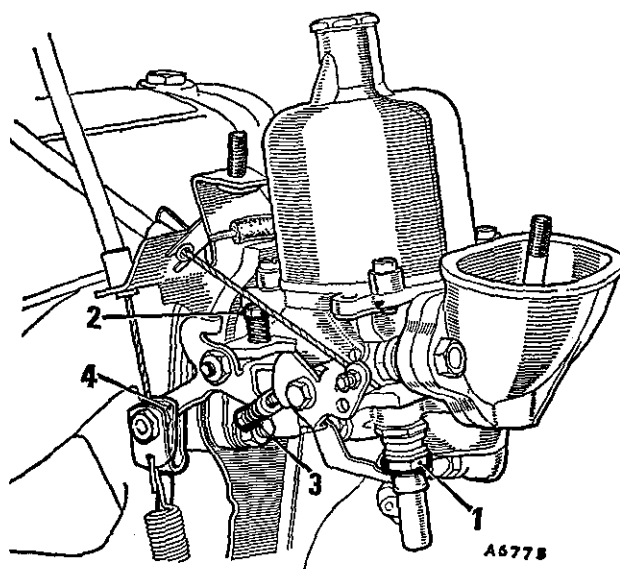

Fig. Da.1
- (6) Connect a tachometer.
- (7) Select 'N' on the gear lever quadrant and apply the hand brake.
- (8) Run the engine until it attains its normal running temperature and adjust the jet as described in Section D.6.
- (9) With the carburetter correctly tuned, adjust the throttle adjusting screw (2) (Fig. Da.1) until a maximum idling speed of 650 r.p.m. is obtained.
- (10) Pull out the choke control to the maximum fast idle position. Check, and adjust if necessary, the fast idle adjustment screw (3) (Fig. Da.1), to obtain a maximum fast idle speed of 1,050 r.p.m. Push in the choke control and re-check the idling speed.
- (11) Adjust the governor control rod as detailed in Section Fa.2.